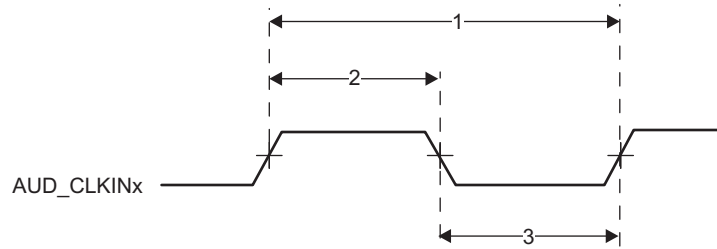

**Figure 8-13. AUX\_MXI/AUX\_CLKIN Timing**
**Table 8-16. Timing Requirements for AUX\_MXI/AUX\_CLKIN(1) (2) (see Figure 8-13)**